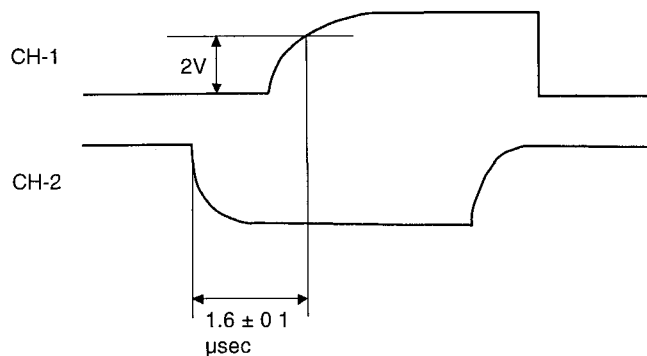

Fig. 2-102
(2) Horizontal Position Adjustment (Fig. 2-102)
Press the **U** and **D** keys so the relationship between CH-1 and CH-2 waveforms is as shown in Fig. 2-102.